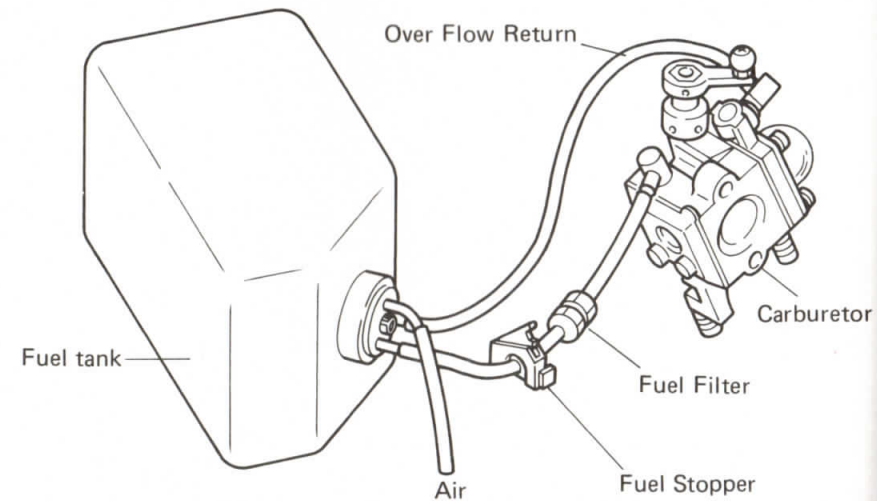

Fig. 9
- 46** Place the completed fuel tank into the frame, then connect up the tank and carburetor using thick diameter rubber tubings as shown in Fig. 9.